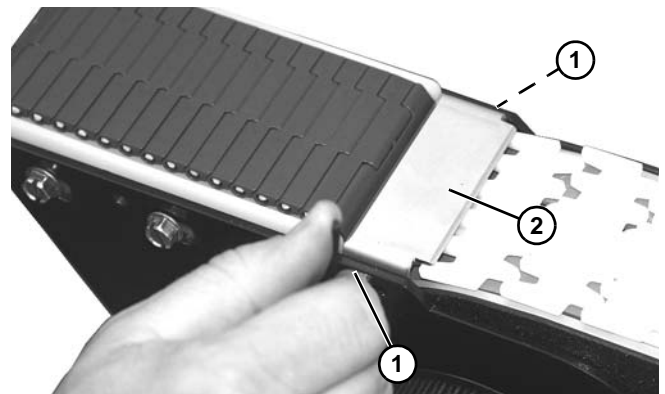

Figure 144
6. Remove two socket head screws (**Figure 144, item 1**) and pinch guard (**Figure 144, item 2**).